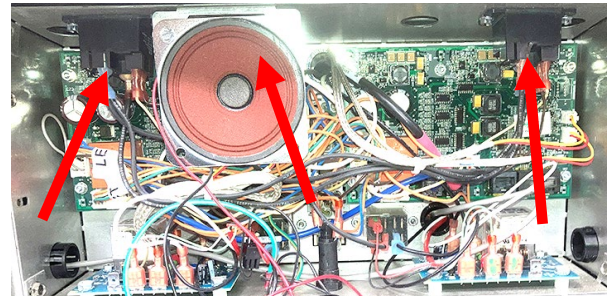

Figure 20
12. On gas fryers, the speaker bracket and relay(s) must be relocated towards the rear of the box to allow room for the cooling housing (see Figure 20). On electric fryers, the speaker bracket can be bent down towards the SIB board (see Figure 24). If electric, skip to step 19.